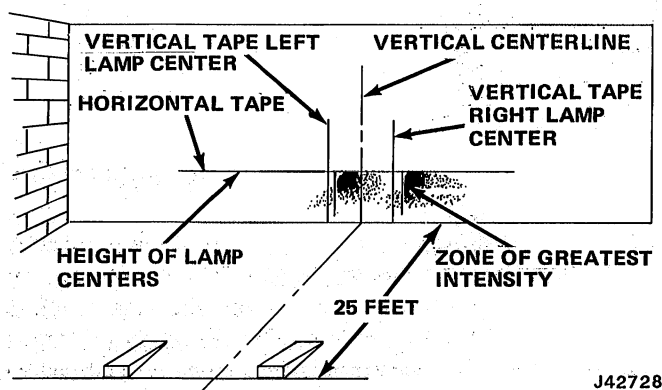

Fig. 3R-1 Headlamp Aiming
(1) Locate vehicle in darkened area with level floor and with screen (wall) having nonreflecting white surface.
(2) Mark reference line on floor 25 feet away from and parallel to screen (fig. 3R-1).